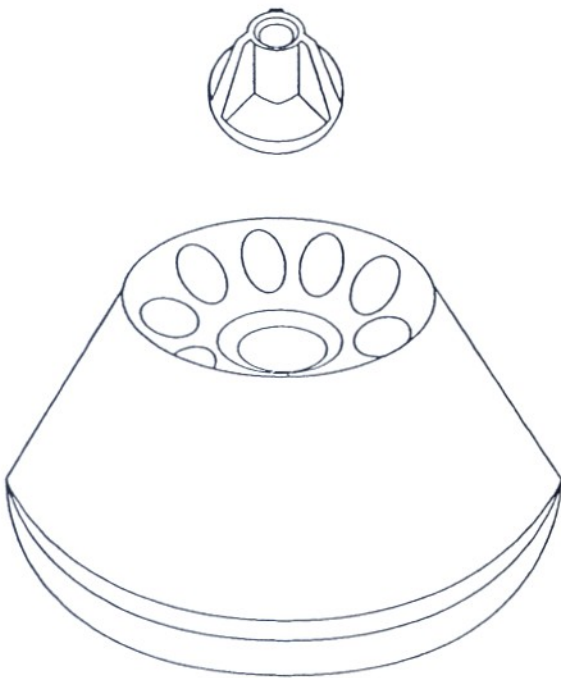

Figure 4. Locking Nut & Assembled Rotor
1. Two-part rotor (Figure 4)
2. Locking Nut (Figure 4)